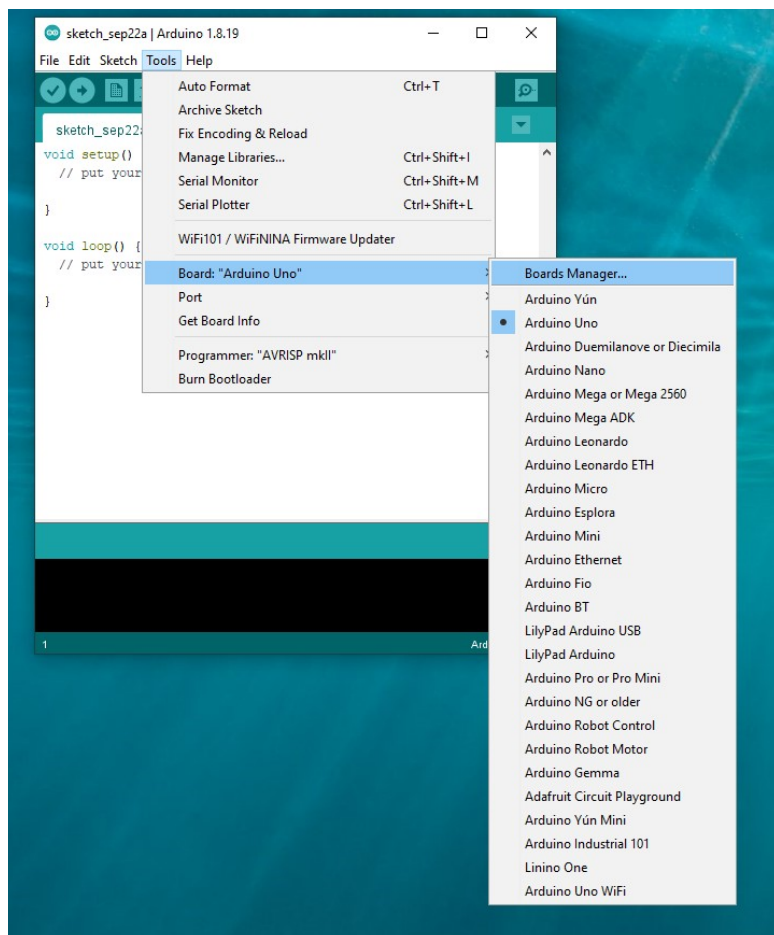

Figure 2 – Arduino boards manager menu entry
3. We will this have to install the appropriate board package (the “Arduino SAMD Boards (32-bits ARM Cortex-M0+)” package) via the Arduino Boards Manager (see Figures 2 and 3). Installing this on my home machine takes approximately 3 minutes – though it might take longer if you need to do it on the SHU managed desktop1.